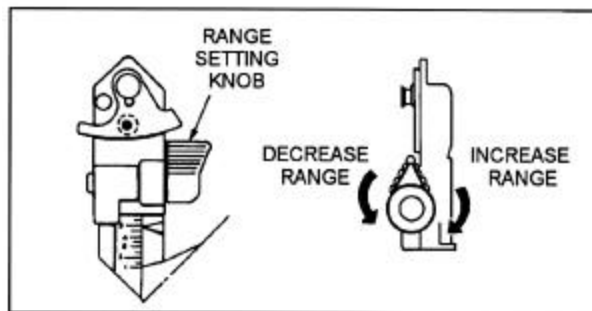

Figure 4-7. Adjusting the rear sight range setting.
(1) Before closing the rear sight cover, set the sight on a range of 200 meters. When the rear sight is uncovered, the battlesight setting is 200 meters. If the range to the target is more than 250 meters, adjust the sight to the range. When the range is 250 meters or less, no sight adjustment is required (Figure 4-7).
(2) To adjust the rear sight range setting to more than 200 meters, turn the range knob clockwise (toward the muzzle). To decrease the range, turn the range knob counterclockwise (toward the gunner). There is a click at each 50-meter increment; the sound aids the gunner during limited visibility (Figure 4-7).